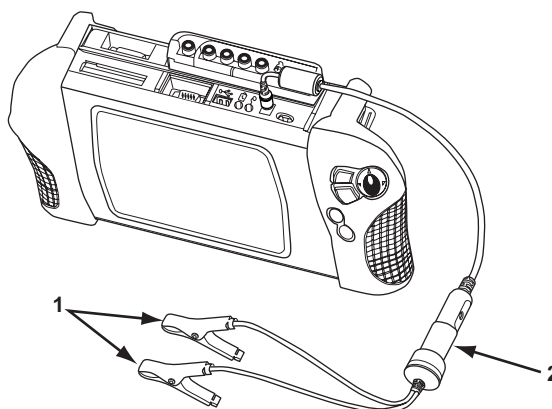

Figure 3-3 Sample auxiliary power cables connected
- Plug the other end of the Lighter Power Cable into the cigarette lighter or the Battery Power Cable receiver (Figure 3-3).